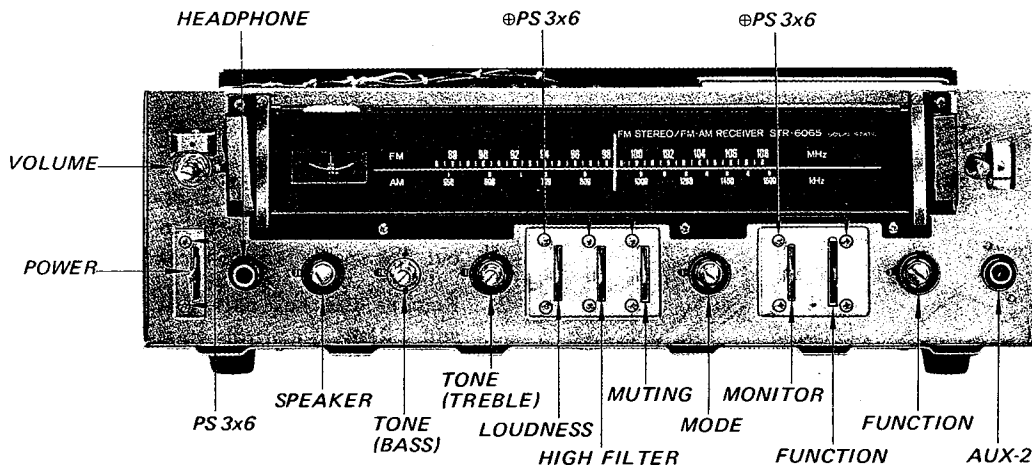

Fig. 2-16. Control and switch replacement
Prepare for replacing any of the controls or switches by removing the wooden case as described in Procedures 2-3 and 2-4. Refer to Fig. 2-16.
1. Remove the two screws ($\text{PS } 3 \times 6$) securing switches to the front subchassis as shown in Fig. 2-16.
2. Remove the hex nuts that secure the switches to the front-subchassis as shown in Fig. 2-16.